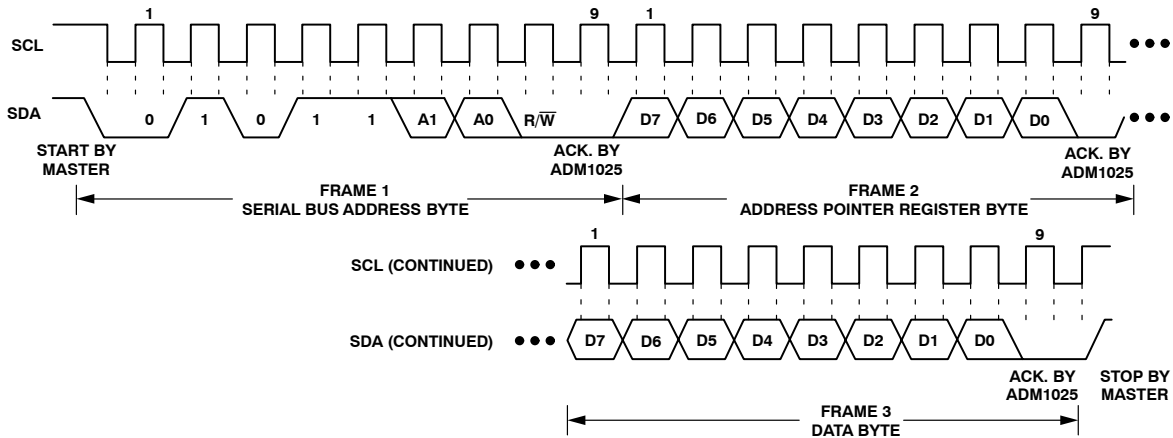
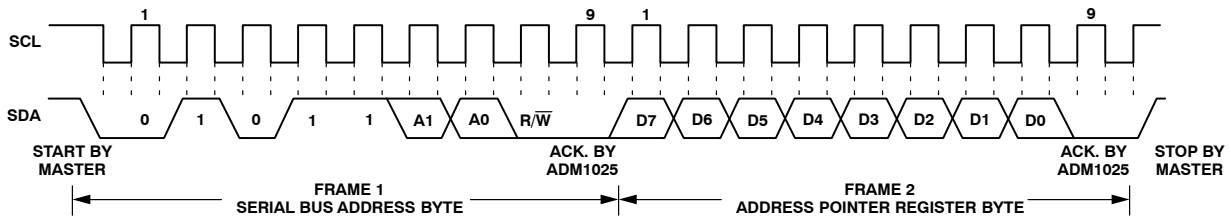
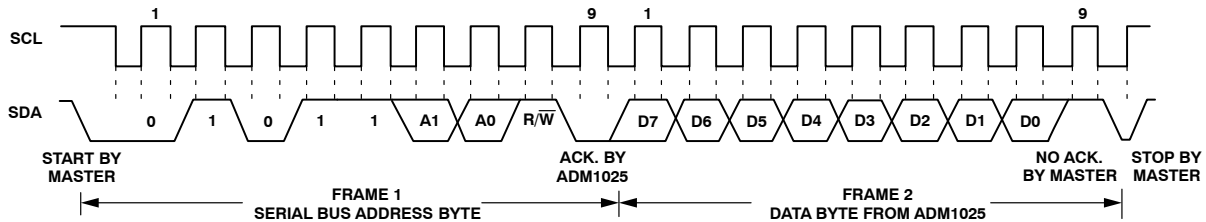

Figure 10. Writing a Register Address to the Address Pointer Register, then Writing Data to the Selected Register
Figure 11. Writing to the Address Pointer Register Only
Figure 12. Reading Data from a Previously Selected Register
This is illustrated in Figure 10. The device address is sent over the bus followed by R/\overline{W} set to 0. This is followed by two data bytes. The first data byte is the address of the internal data register to be written to, which is stored in the Address Pointer Register. The second data byte is the data to be written to the internal data register.
1. If the ADM1025/ADM1025A's Address Pointer Register value is unknown or not the desired value, it is first necessary to set it to the correct value before data can be read from the desired data register. This is done by performing a write to the ADM1025/ADM1025A as before, but only the data byte containing the register address is sent, since data should not be written to the register. This is shown in Figure 11. A read operation is then performed consisting of the serial bus address, R/W bit set to 1, followed by the data byte read from the data register. This is shown in Figure 12.
2. If the Address Pointer Register is known to be already at the desired address, data can be read from the corresponding data register without first writing to the Address Pointer Register, so Figure 11 can be omitted.
2. In Figure 10 to Figure 12, the serial bus address is shown as the default value 01011(A1)(A0), where A1 and A0 are set by the three-state ADD pin.